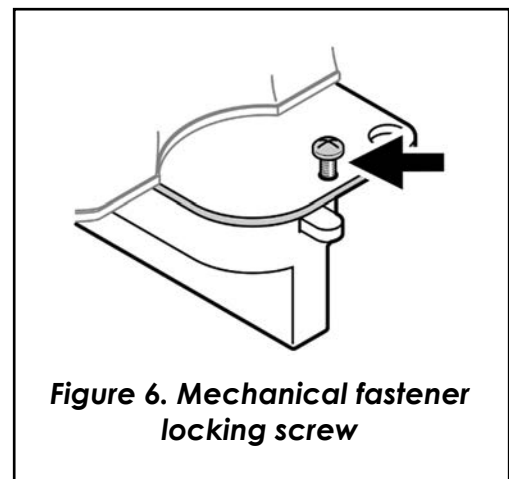

Figure 6. Mechanical fastener locking screw
8. See Figure 6. Now that the fixture is supported at both ends, return to the end of the track adapter next to the wireless linking button. Tighten the M4 x 6 mm mechanical fastener locking screw that prevents the mechanical fastener lever from being opened accidentally.